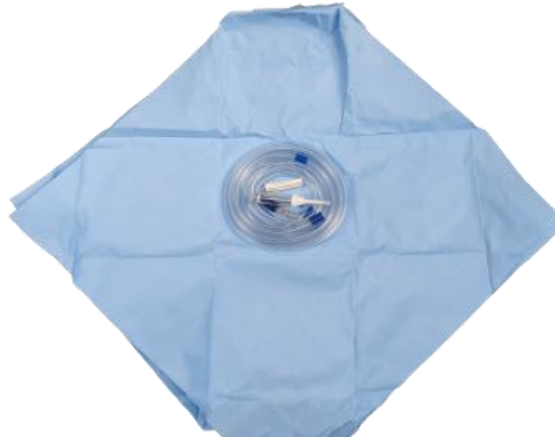

Figure 98: Aspiration and Anticoagulation Line in its sterile field.
- Give the line, still in its sterilised paper (See Figure 98), to the sterile operating room nurse.